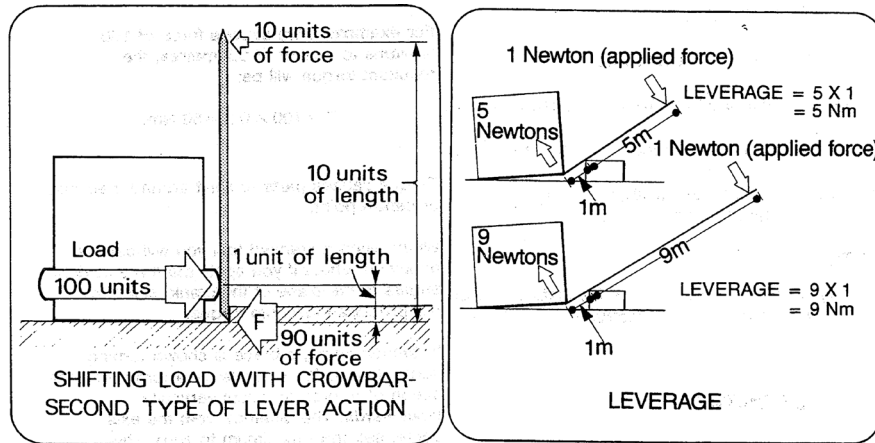

Figure 4 Leverage to a load
A lever has a **fulcrum** (a point of support). The closer the load is to the fulcrum and the longer the lever is to apply the effort, the easier it is to shift a big load. Conversely, the closer the load is to the fulcrum, the smaller the distance the load can be moved. This can be seen in Figure 4 (L).
Leverage is a principle that is related to using a lever. It is related to the length of the lever (the tool) and the applied force. More leverage can be applied to a load with a longer tool, than a shorter one. This can be seen in Figure 4 (R).